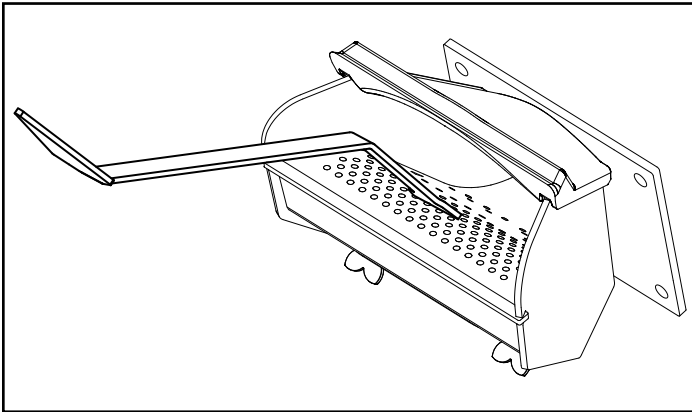

Figure 3.1
- Using flame resistant gloves, vigorously scrape the top holed surface and sides of the burn pot down to auger tube, be sure to concentrate in the neck of the burnpot. Figure 3.1.